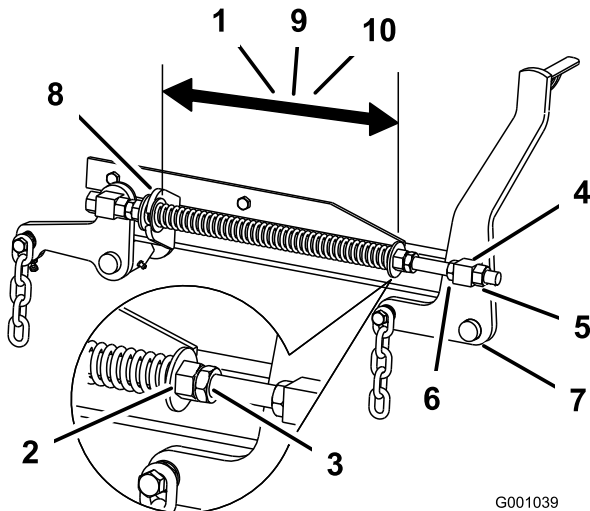

Figure 85
2. Check the distance between the two large washers, it needs to be 11-1/8 inches (28.2 cm) for 52 inch mower decks, 10-1/2 inches (26.7 cm) for 60 inch mower decks or 11-1/2 inches (29.2 cm) for 72 inch mower decks (Figure 85).
3. Adjust this distance, by loosening the spring jam nut and turning the nut in front of each spring (Figure 85). Turning the nut clockwise will shorten the spring; counter-clockwise will lengthen the spring.
4. Lock the nut into position by tightening the spring jam nut (Figure 85).